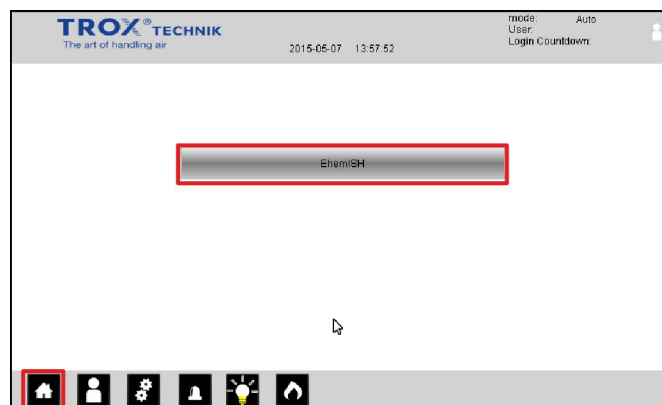

Fig. 19: Opening the system overview (variant 2)
- ▶ Press  (Fig. 19) on the starting screen or press the button in the navigation area (Fig. 19).